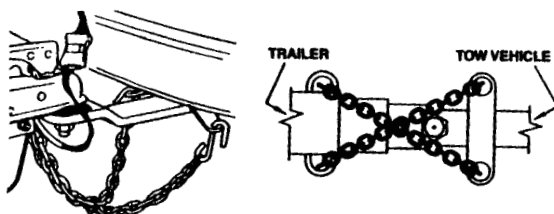

Figure S13: Crossing the Safety Chains
- Safety chains are provided and must be used. Cross the safety chains under the coupling and attach to the towing vehicle's frame or bumper. See Figure S13. Always allow slack for turns. Four Winns® provides securement clips for the safety chain hooks and recommends you use them. Regulations vary from state to state. Please check the local laws in your state.